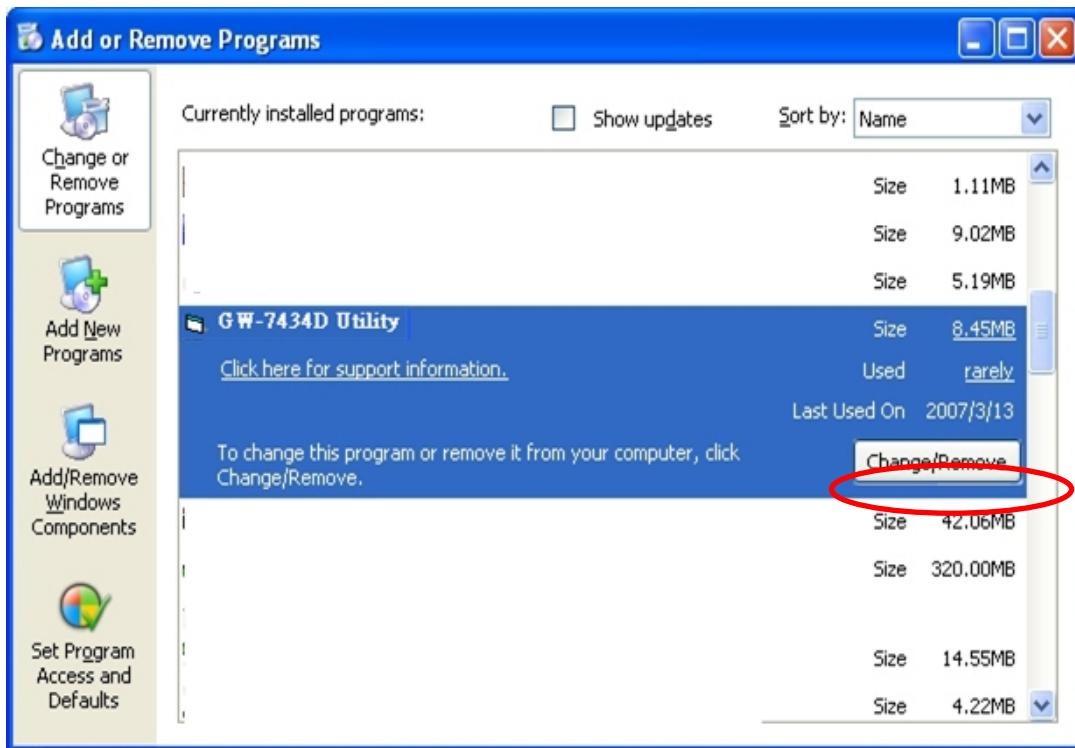

Figure 5-9: Click “Change/Remove” button
Step 3: Find out the GW-7434D Utility, and click the Change/Remove button. See figure 5-9.